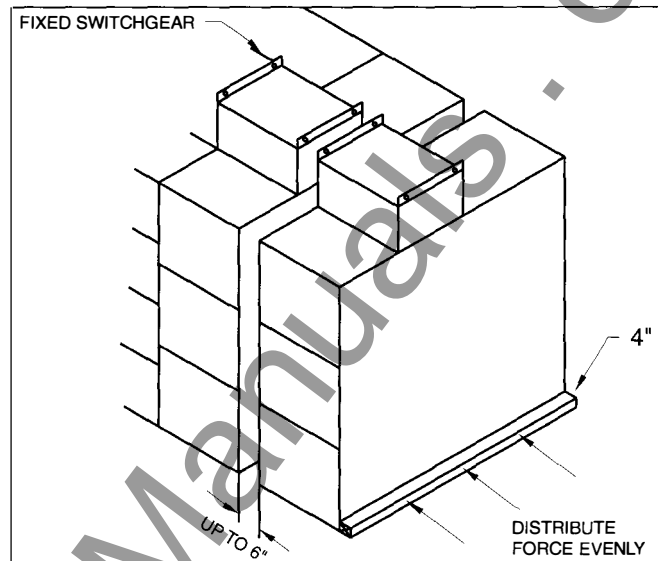

Figure 6. Final Positioning of Switchgear in Obstructed Areas without a Crane
7. Where top lift capability is not available, protect the switchgear bottom with support timbers and move with jacks and rollers just to the side of its final position. Remove rollers, shipping skid, and other packaging materials and remove jacking facilities. Clear any obstructions. The equipment may be slid sideways up to 6 inches (152mm) to join the shipping split. Any sliding force must be carefully applied across the bottom 4 inches (100mm) of the switchgear side with proper cribbing to fully distribute the force across the full depth of side. See **Figure 6**.